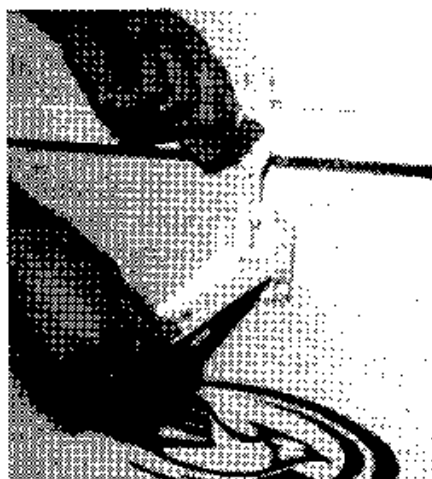

Fig. 1
1. Unlatch all roof latches. See Fig. 1
**CAUTION:** Never attempt to crank or use the power lift system to raise the roof until all latches are unlocked and free. Fig. 1. Never lift roof with cargo in place.